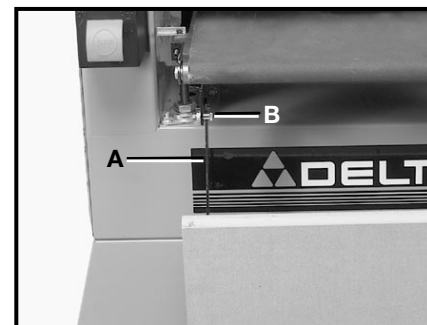

Fig. 11
11. The support tables can be stored by hooking the end of the support brackets (A) Fig. 11 onto the studs (B).